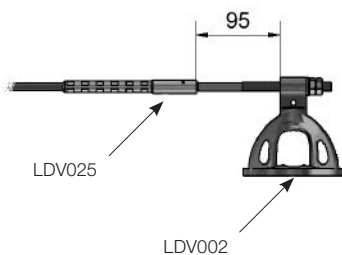

Fig. 20. Crimping ring LDV025
- Crimping ring LDV025 (Fig. 20)